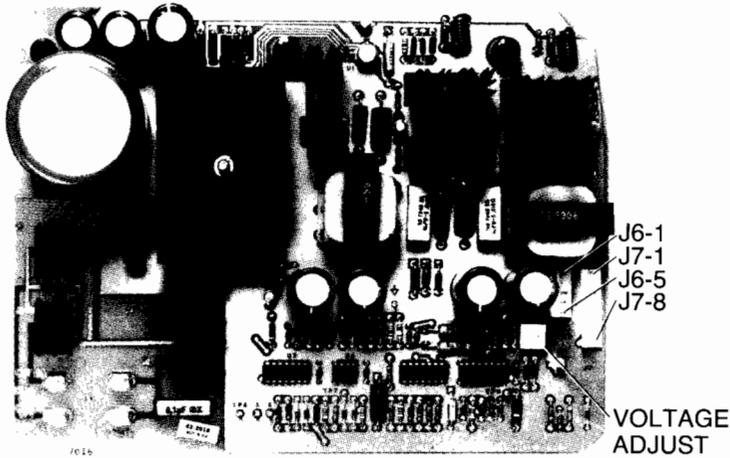

Figure 5-1. Standard Terminal Test Points and +5V Adjustment Locations
4. Using a 20,000 ohms/volt voltmeter, check the Power Supply PCA voltages (table 5-1 and figure 5-1 or 5-2) for accuracy. A fine-tipped voltage probe can be easily inserted through the holes in the cable connector (J5).
5. Adjust the +5V potentiometer (figure 5-1 or 5-2) until the +5V and +12V (or +16.1V for terminals with the printer option) sources are within tolerance. If they cannot be adjusted to be within tolerance or if the -12V source is out of tolerance, refer to the Troubleshooting Section.